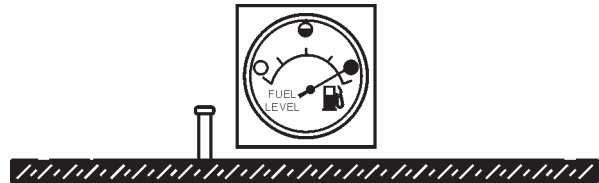

Figure 24. Full Fuel Tank
If generator is equipped with an environmental fuel tank, reference Figures 24 and 25.
3. **NEVER overfill fuel tank** – It is important to read the fuel gauge when filling trailer fuel tank. **DO NOT** wait for fuel to rise in filler neck (Figure 24).